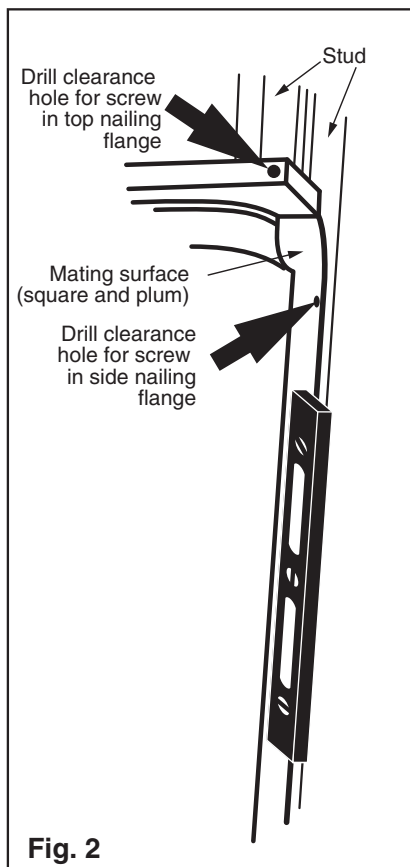

Fig. 2
- B) **Ensuring mating surface is square and plum (Fig. 2)**, install galvanized screws through each clearance hole and into the studs, securing the wall panel.